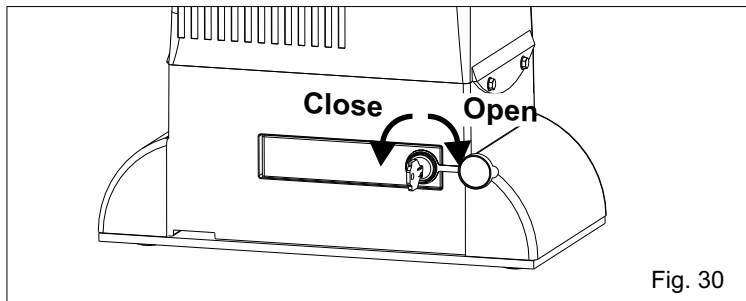

Fig. 30
- Open the lock cover, insert the key and rotate it 90° clockwise (Fig. 30).